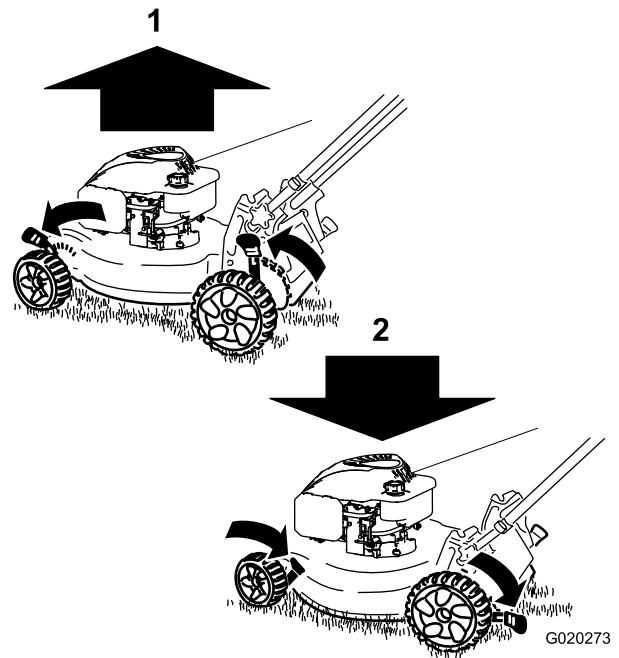

Figure 15
**Note:** To raise the machine, move all the cutting-height levers forward; to lower the machine, move the all the cutting-height levers rearward (Figure 15).